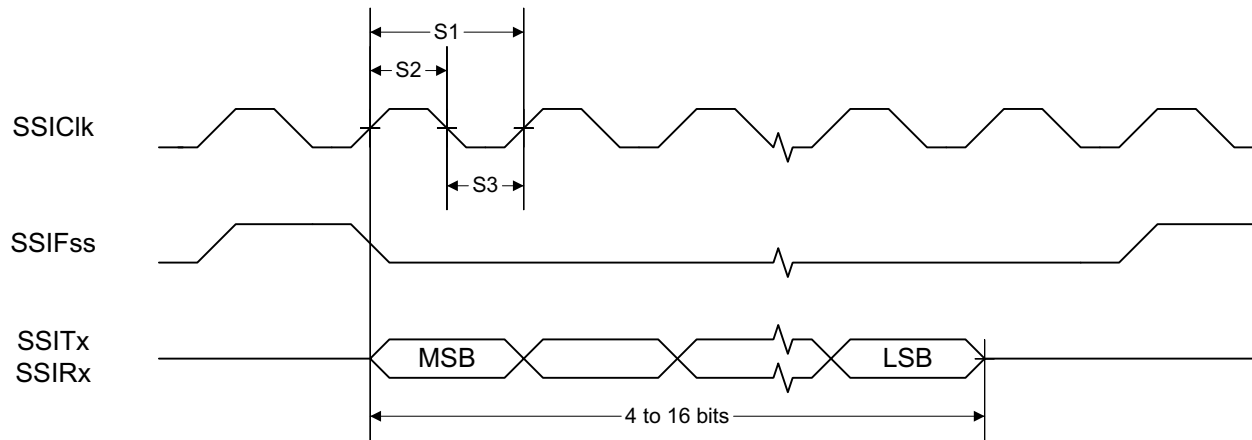
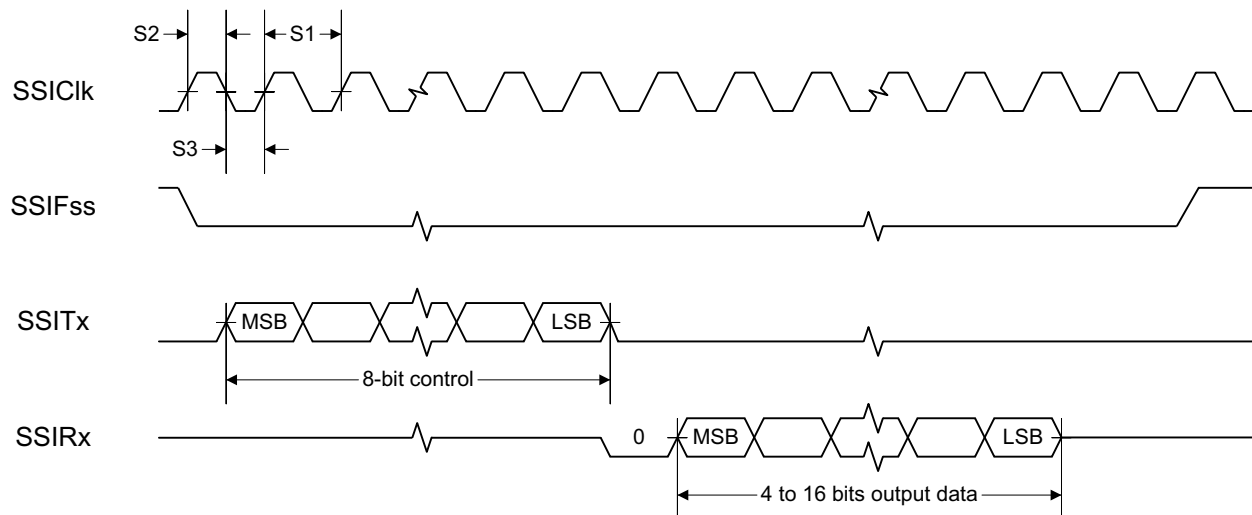
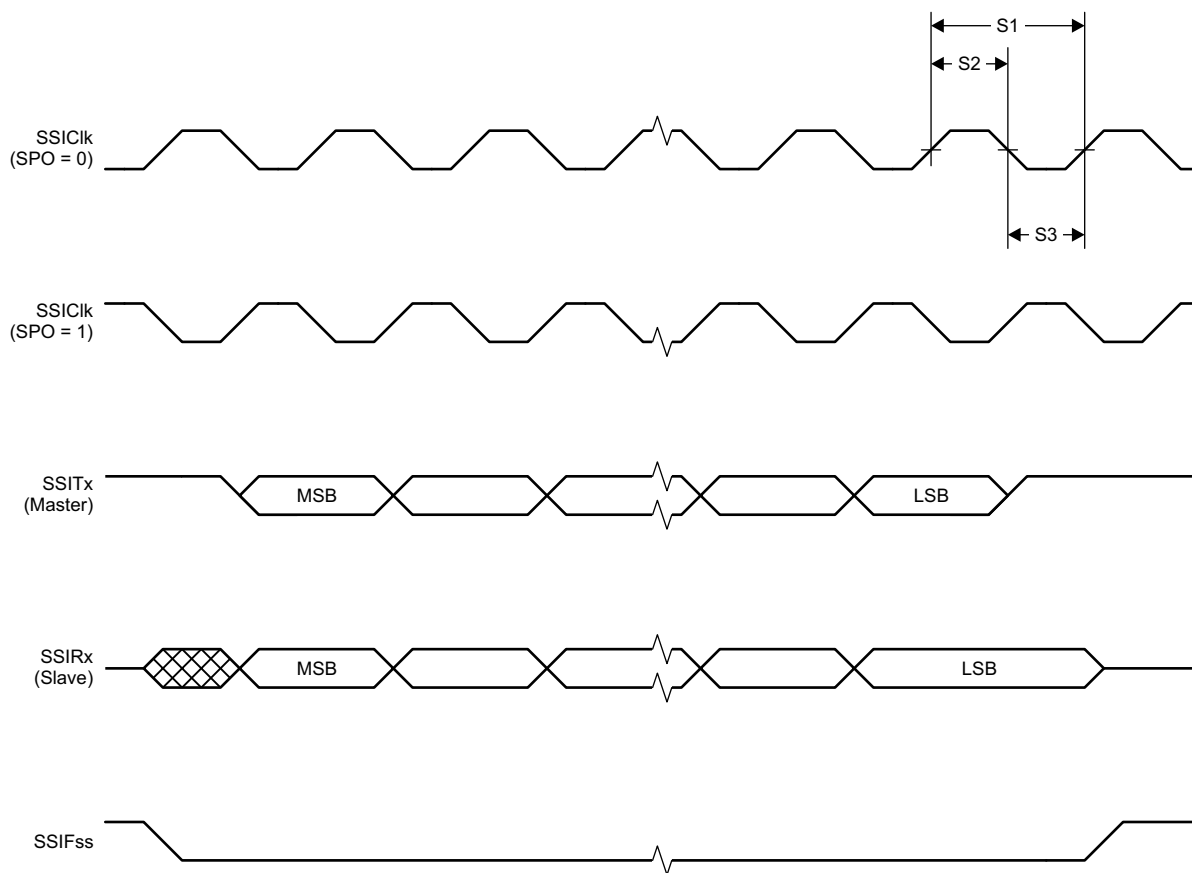

図 7-1. SSI Timing for TI Frame Format (FRF = 01), Single Transfer Timing Measurement
図 7-2. SSI Timing for MICROWIRE Frame Format (FRF = 10), Single Transfer
図 7-3. SSI Timing for SPI Frame Format (FRF = 00), With SPH = 1
(1) Refer to SSI timing diagrams Figure 7-1, Figure 7-2, and Figure 7-3.